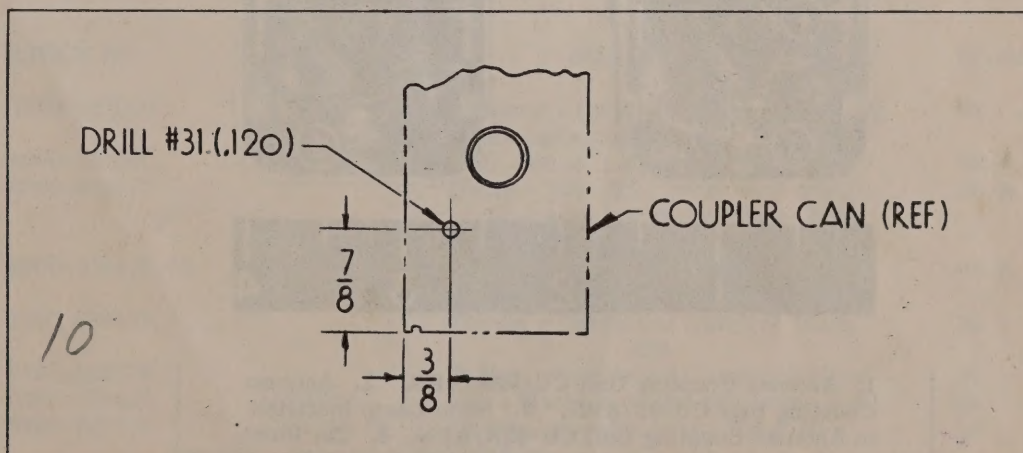

Figure 1
b. Drill can in accordance with figure 1.